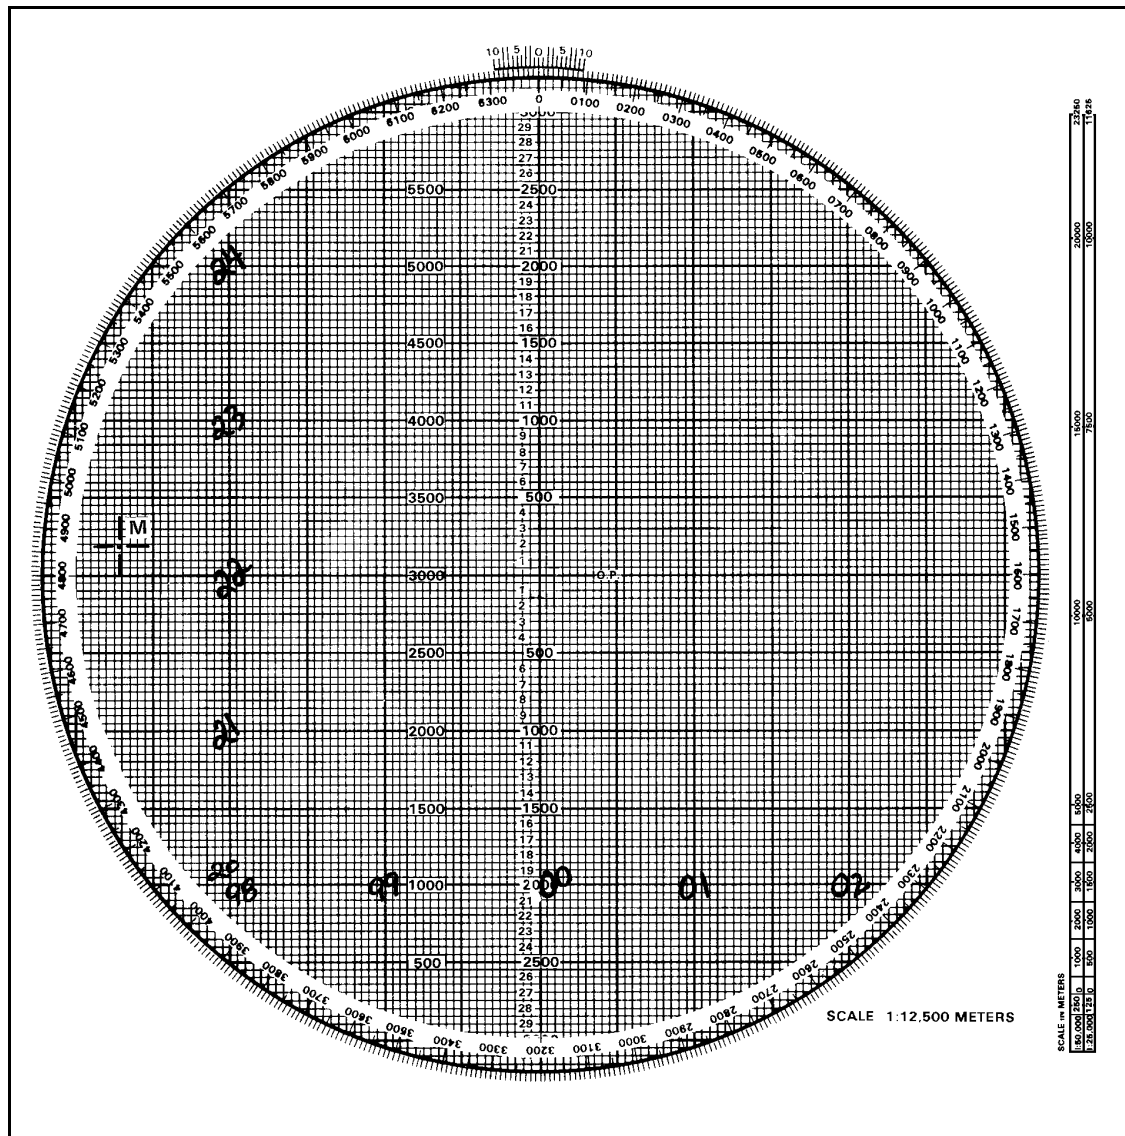

Figure 12-17. Plotting of a mortar position.
- (1) Ensure that the azimuth disk is indexed at 0.
- (2) Read like a map: RIGHT and UP.
- (3) Remember that the scale is 1:12,500 (each small square is 50 meters by 50 meters) (Figure 12-17).